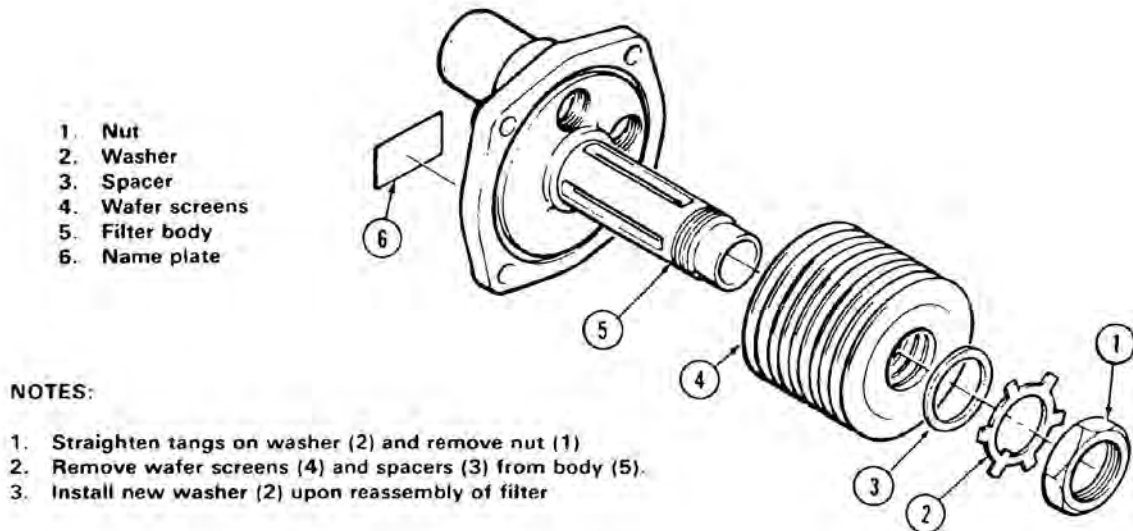

Figure 63-23. Sump Internal Filter
63.5.7.2.4.1 Assemble filter, with spacer (3, Figure 63-23) first, with eleven spacers (3), ten screens (4) (alternately), washer (2) and nut (1).
63.5.7.3.2 Inspect wafer screens (4, Figure 63-23) for distortion or tears. Damage which can be detected visually is not acceptable.
mechanical and corrosion damage (Figure 63-23).